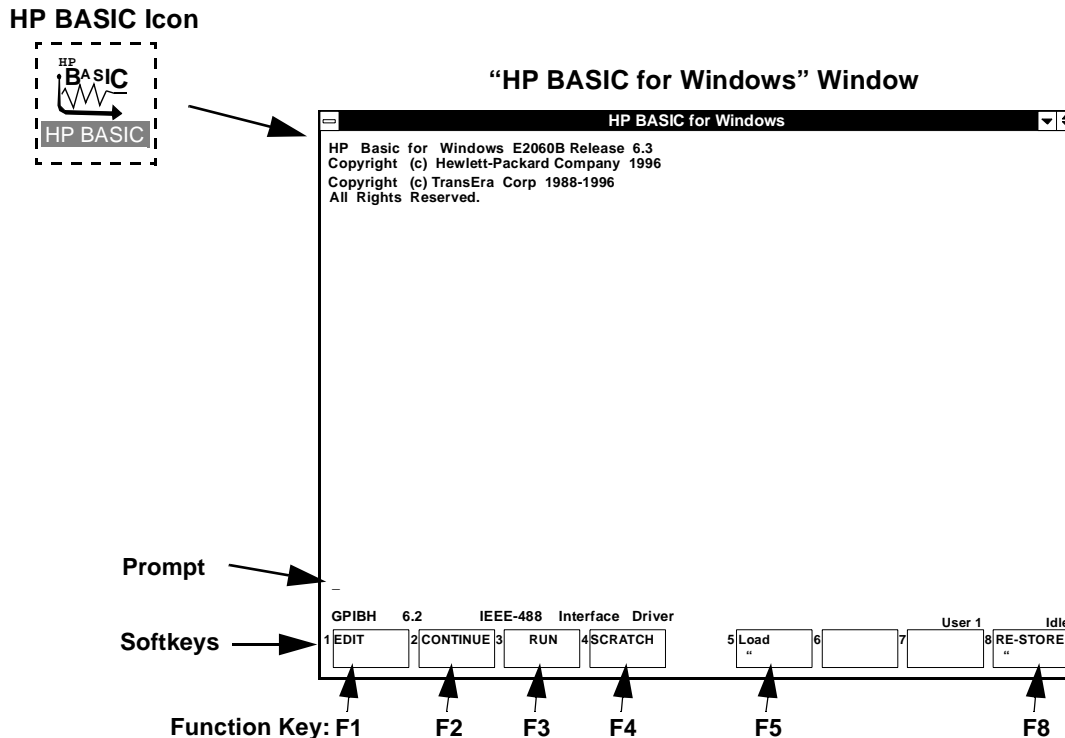

Figure 2 HP BASIC Icon and Window
To complete this step, please follow instructions found in the *Installing and Using Guide* that comes with HP BASIC for Windows. When the setup is complete, there will be a program group titled “HP BASIC for Windows” from where you select the **HP BASIC** icon (see figure 2, “HP BASIC Icon and Window”).
1. From Windows, double-click on the **HP BASIC** icon. The HP BASIC for Windows screen appears, see figure 2 .